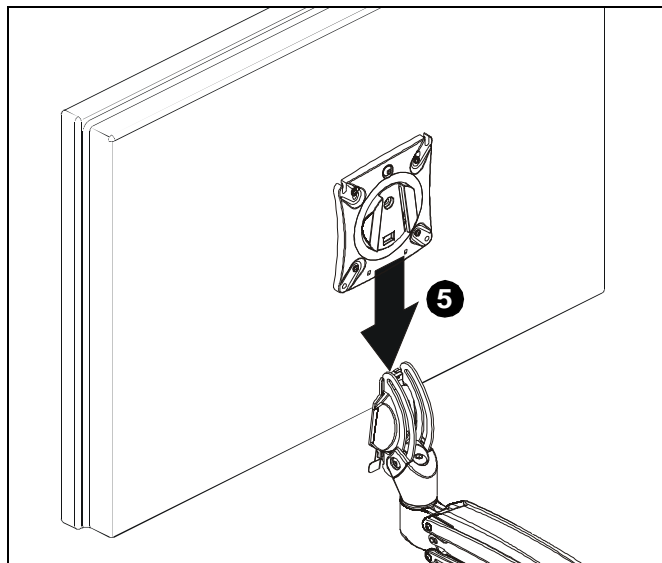

Figure 14
4. Position display with faceplate attached above mount. (See Figure 14)
5. Slide faceplate onto mounting head until quick release tab clicks into place. (See Figure 14)